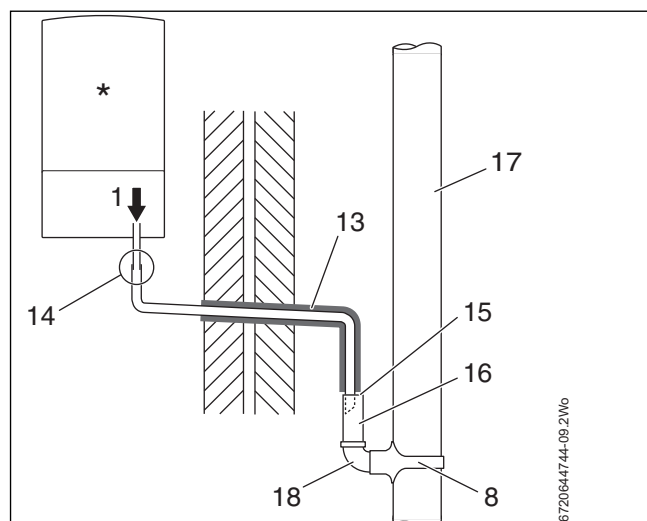

Fig. 13 Disposal into a rainwater down pipe
- Refer to figure 13 when a rain water down pipe is used to dispose of condensate.